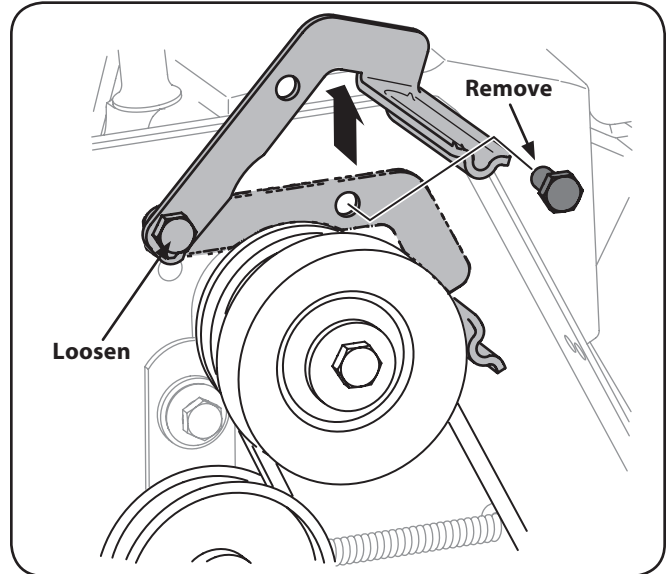

Figure 8-3
3. Loosen the bolt shown in Fig. 8-3 securing the belt keeper bracket and remove the other bolt. Push the belt keeper bracket up off the engine pulley. See Fig. 8-3.